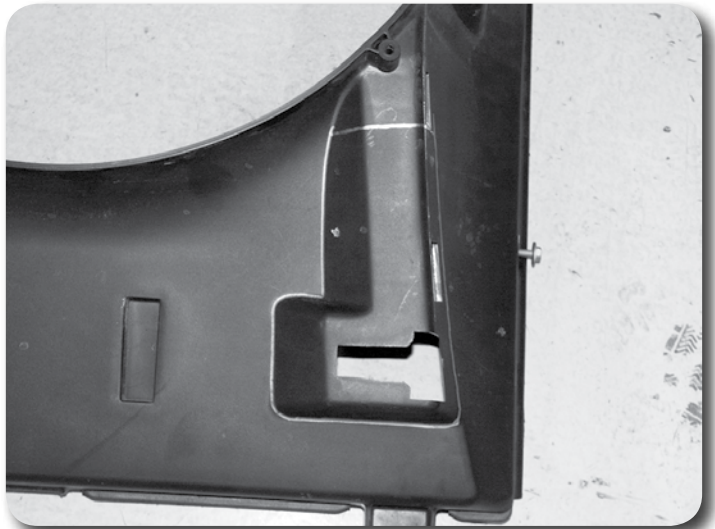

Figure 16
38. Mark around the perimeter of the molded overflow bottle mount on the fan shroud **Figure 16**. Stop at the edge of the upper slot and mark straight down to the bottom of the contour. Cut along the line and remove the piece from the shroud.